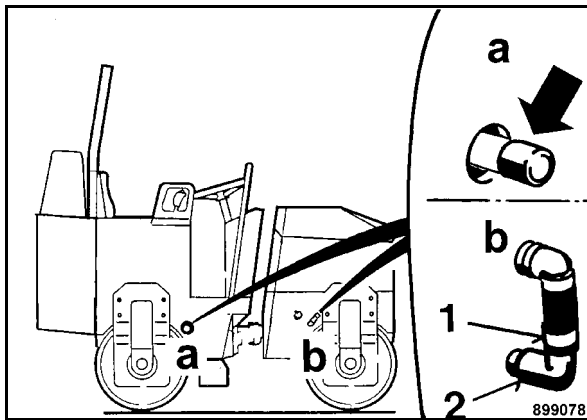

Fig. 85
- Pull the cap a (Fig. 85) off the sprinkler tube.
- Loosen (b) the hose clamp (1) and pull the hose off the sprinkler tube (2).